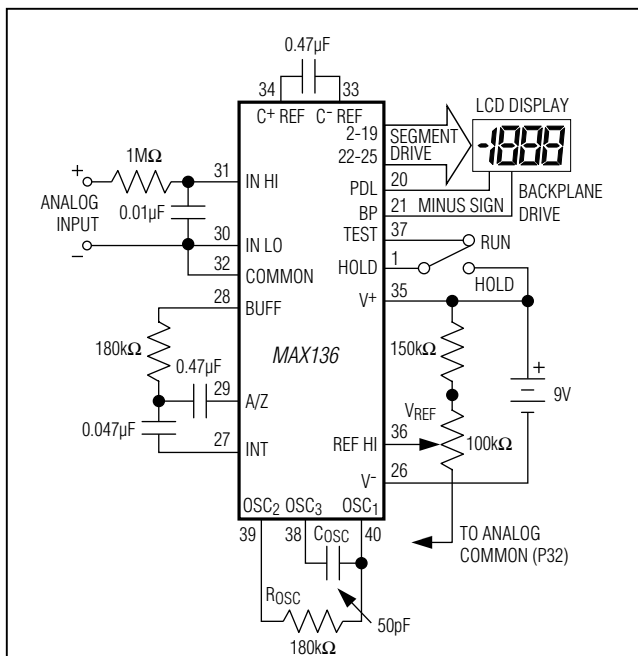

Figure 1. MAX136 Typical Operating Circuit, 200mV Full Scale
(V+ = 9V; TA = 25°C; fCLOCK = 48kHz; test circuit - Figure 1 unless noted.)
**Note 3:** Test condition is VIN applied between pins IN-HI and IN-LO, i.e., 1MΩ resistor in Figures 1 and 2.
**Note 6:** 1MΩ resistor is removed in Figures 1 and 2.
are not updated; when the Hold input is low or at the Test voltage, the display is updated at the end of each conversion. The MAX136 maintains low-power dissipation even during display hold by eliminating the pull-down resistor between Hold and Test present on the ICL7116. The Hold input is CMOS compatible, and can also be driven by a switch connected between Test and V+ (Figure 1).